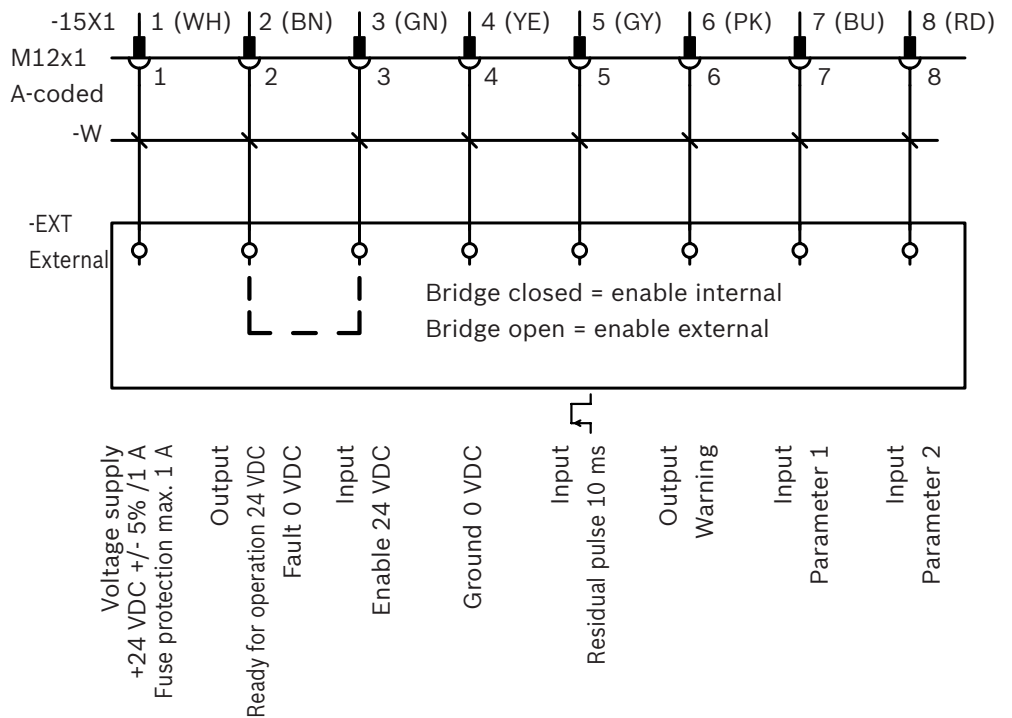

Fig. 16: Assignment of port 15X1: Enable signal 24 VDC
- ▶ Connect the mating connector (optionally available, refer to chapter 17.3 "Accessories") for power supply, see fig. 16, as interface to the superior machine control system: